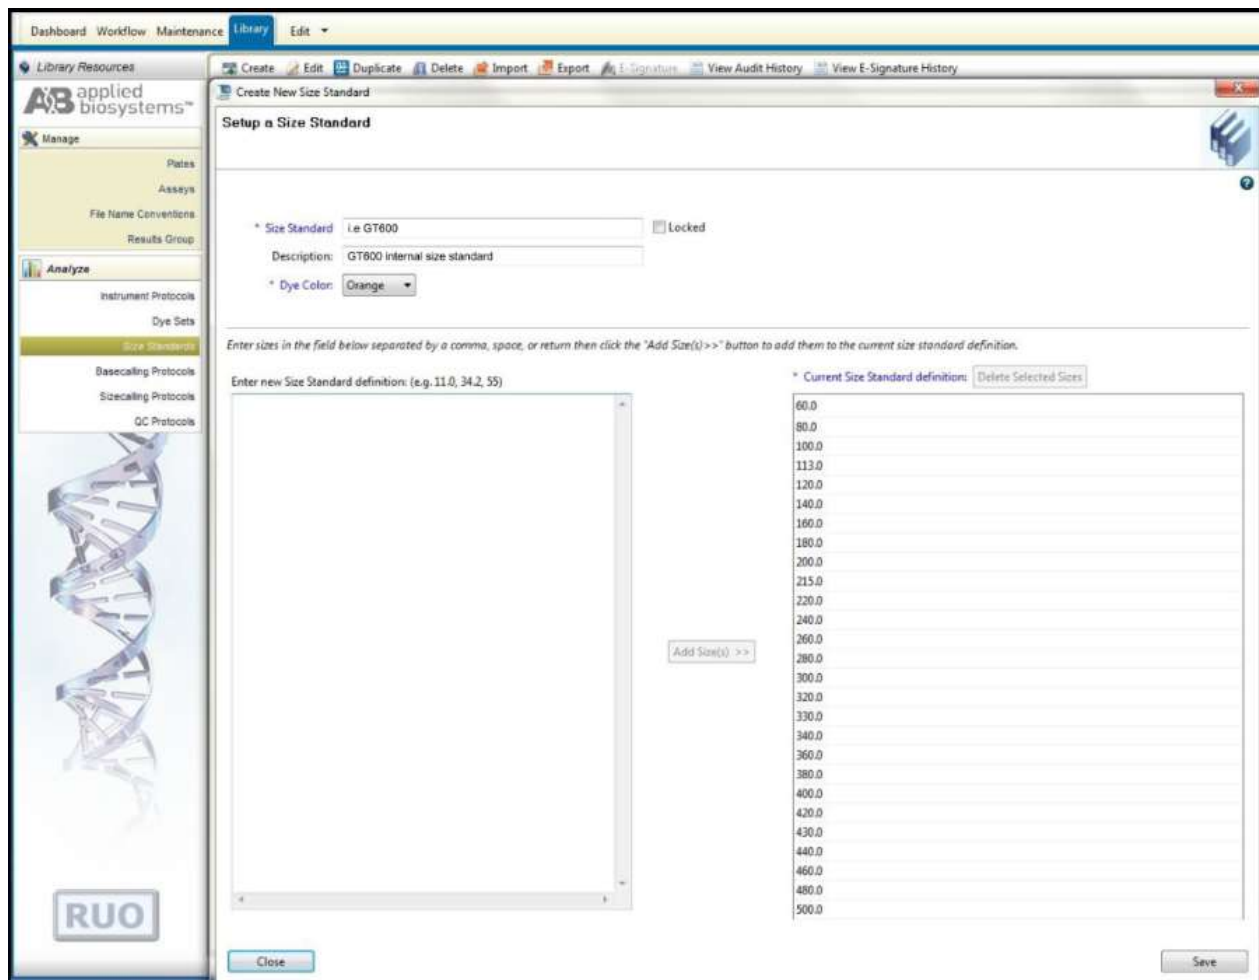

Figure 6. Screenshot for the “Create New Size Standard” window on Applied Biosystems 3500 Data Collection software
- c) Select “Create” (Figure 6)
Users can select settings as shown in the Figure 6 or alternatively may define these settings based on internal validation condition for AneuSure® Max v2 on the Applied Biosystems® 3500/3500xL Genetic Analyzer.